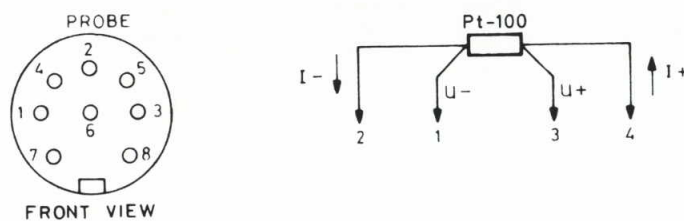

Fig. 16. Connector data of the PROBE input ($^{\circ}$ C).
- In the $^{\circ}$ C function the Pt-100 probe PM9249 can be used. For connection of a Pt-100 element see fig. 16.